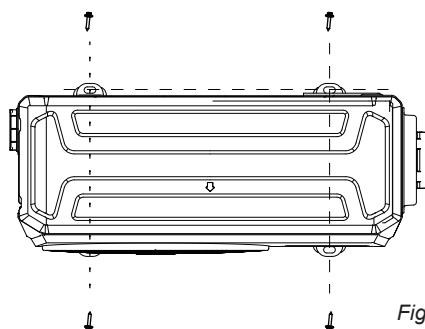

Fig. 4-3
4.1.1 Outdoor unit, see *Fig. 4-2*, *Fig. 4-3* and *Table 4-1*. (Unit: mm)